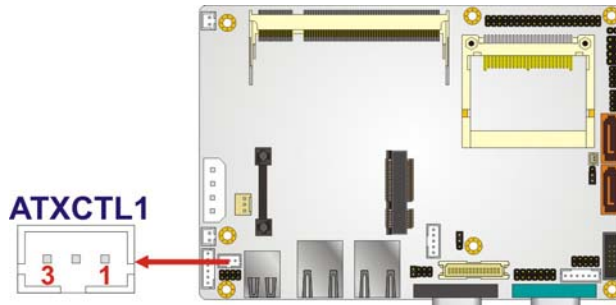

Figure 3-3: ATX Power Supply Enable Connector Location
- CN Location:** See **Figure 3-3**